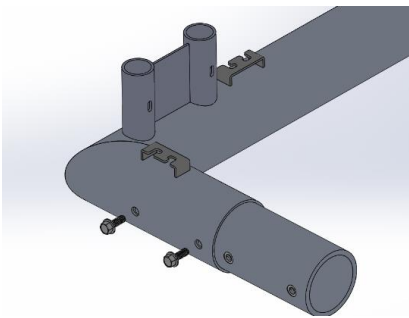

Figure 2A
2. Use (2) 3/8" – 16 x 1" serrated hex bolts to attach the upper stub to the inside of each end frame (Figs. 2A & 2B). **Note: Do not tighten hardware until all bolts are in place.** Repeat for opposite side.